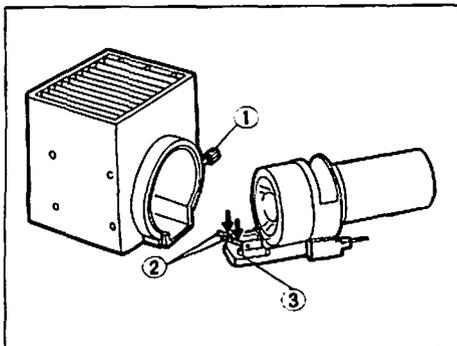

Fig. 16
(Fig. 16)
1. Fully insert the bulb socket into the lamp housing for the transmitted light illuminator and tighten the lamp housing knob. (See Fig. 16 on page 17.)